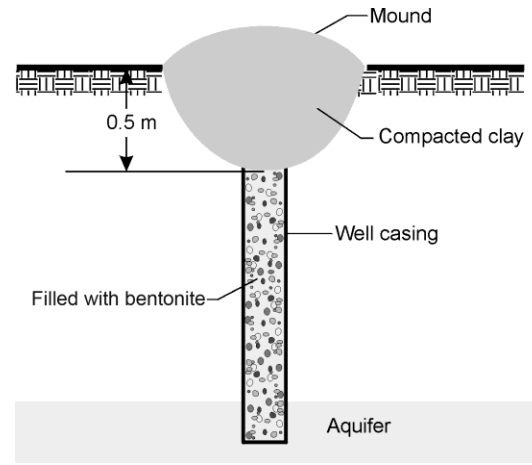

Figure 1. Reclaimed groundwater monitoring well
2.4 Surface completion – From a depth of 0.5 metres to the ground surface, the reclaimed well must be backfilled with material appropriate for the intended use of the land, e.g., compacted clay (Figure 1).